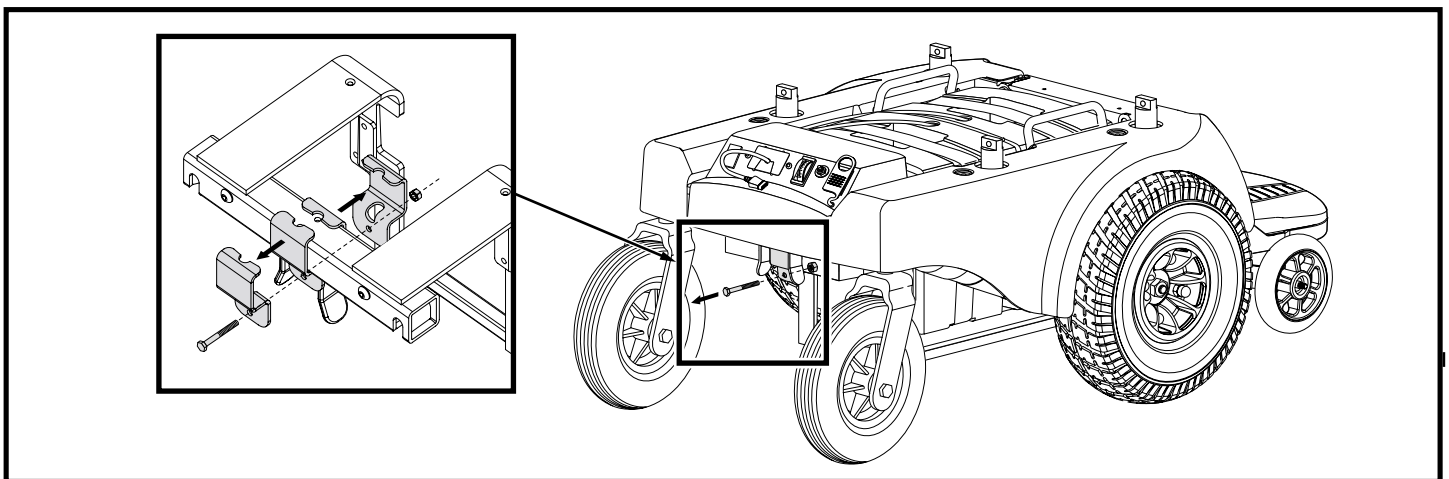

Figure 17. Service Disassembly Bracket
7. Remove the service disassembly bracket located between the latch release levers. See figure 17.
9. Reinstall the service disassembly bracket. See figure 17.